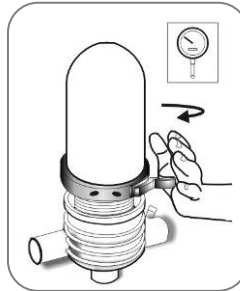

Figure 1
2. Carefully release the clamp and remove the lid. (Figure.1)